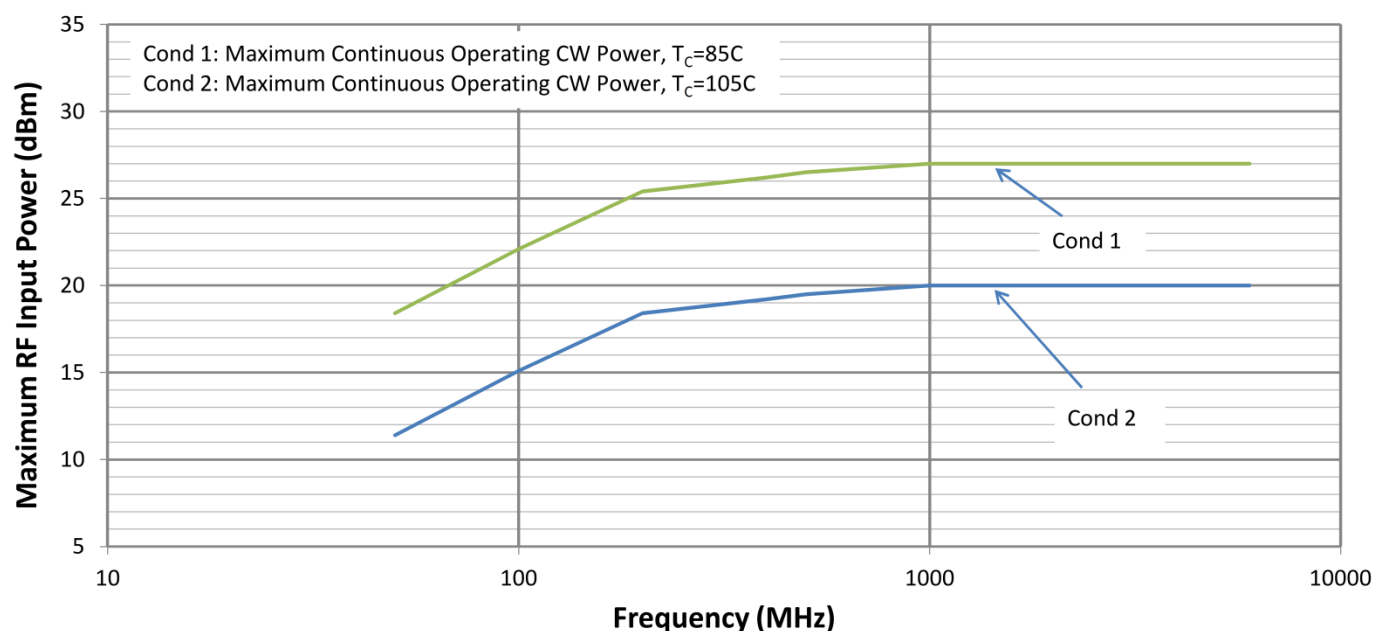

FIGURE 1: MAXIMUM RF INPUT POWER VS. RF FREQUENCY
- 3 – Refer to the Maximum **Operating** RF Input Power vs. RF Frequency curves in Figure 1.
- 3 – The input 1dB compression point is a linearity figure of merit. Refer to Absolute Maximum Ratings section along with Figure 1 for the maximum RF input power vs. RF frequency.